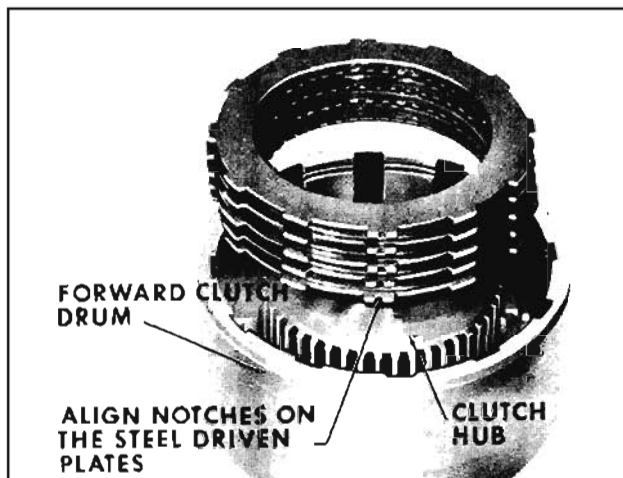

Fig. 6-367 Installing Clutch Pack
9. Align notches on steel driven plates. Install steel driven plates and lined drive plates alternately, beginning with a steel driven plate. (Fig. 6-367)